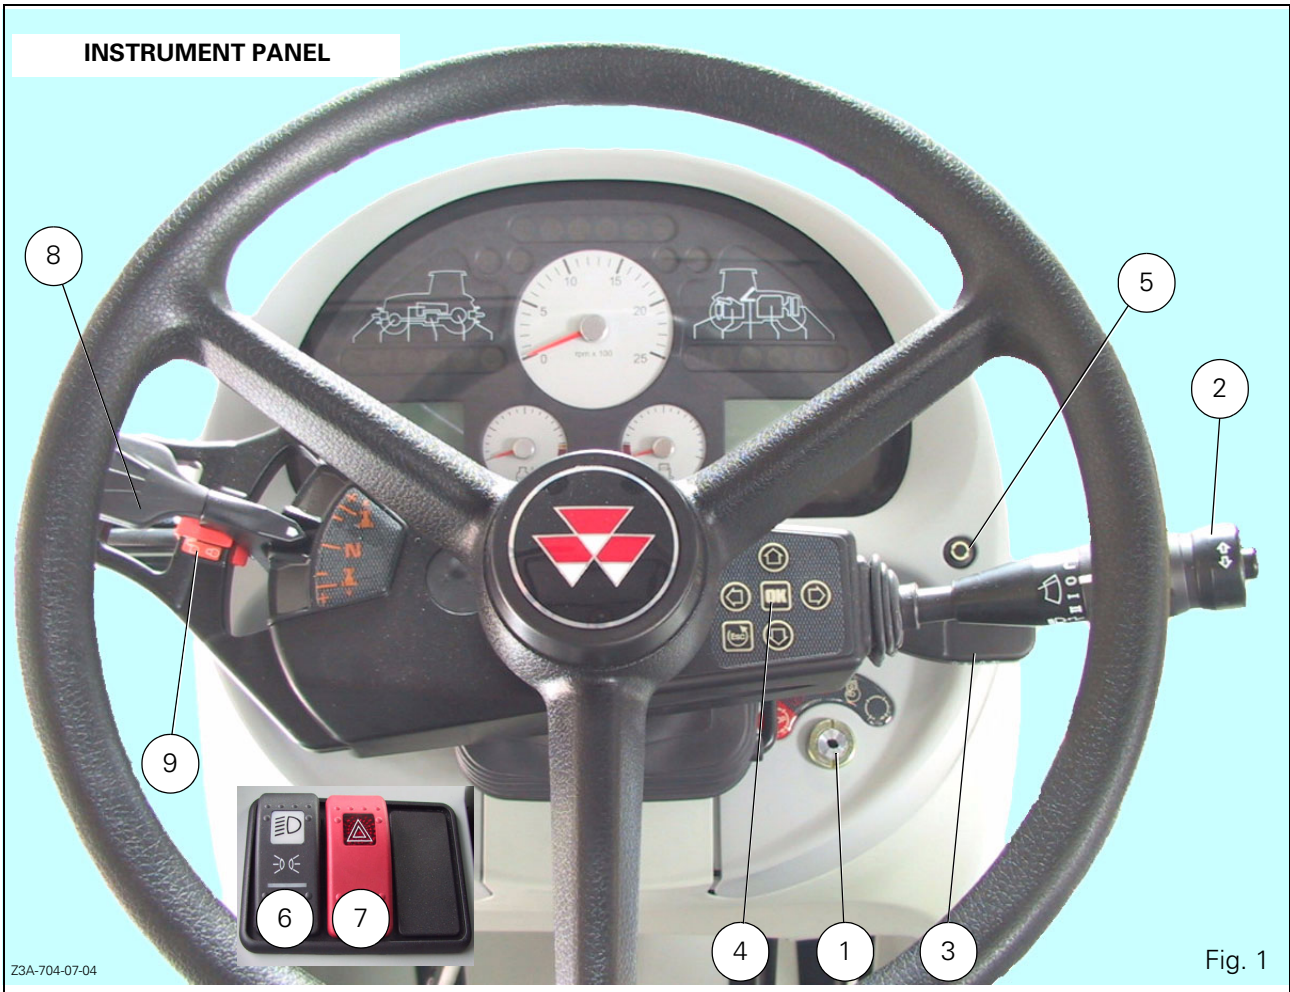

Fig. 1
3.1 - INSTRUMENT PANEL (FIG. 1) .....	3.5
#### 3.1 - INSTRUMENT PANEL (FIG. 1)